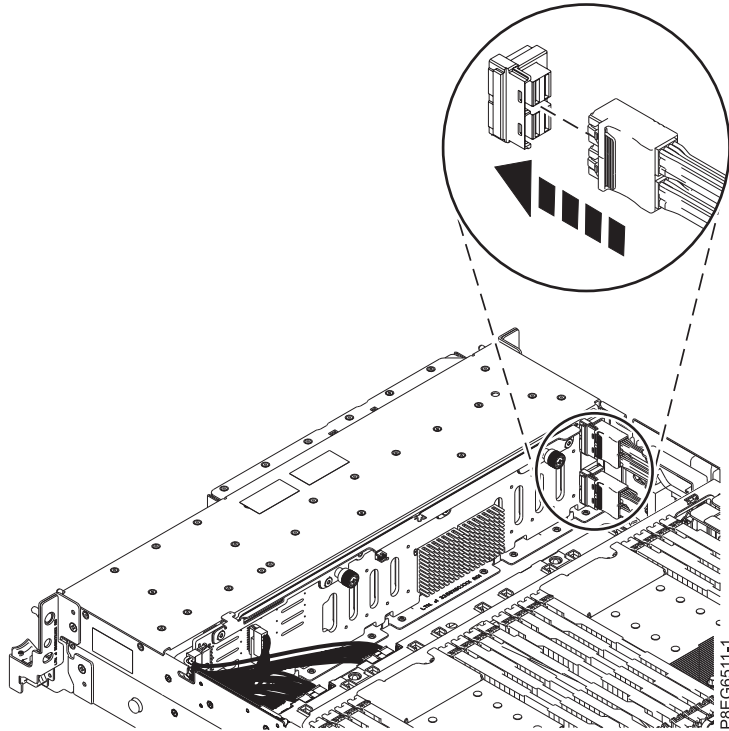

Figure 9. Reconnecting the SAS cable
9. Reconnect the front SAS cables to the connector port on the disk drive backplane, as shown in Figure 9 on page 9. Push the connector in until the connector latch clicks.